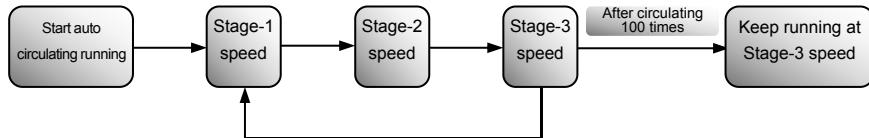

Figure 6-19 Auto-circulating Running
- Note: during DC braking, because motor does not have self-cold effect cause by rotating, it is in the state of easy over-heat. Please do not set DC braking voltage too high and do not set DC braking time to long. DC braking, as shown in Figure 6-19